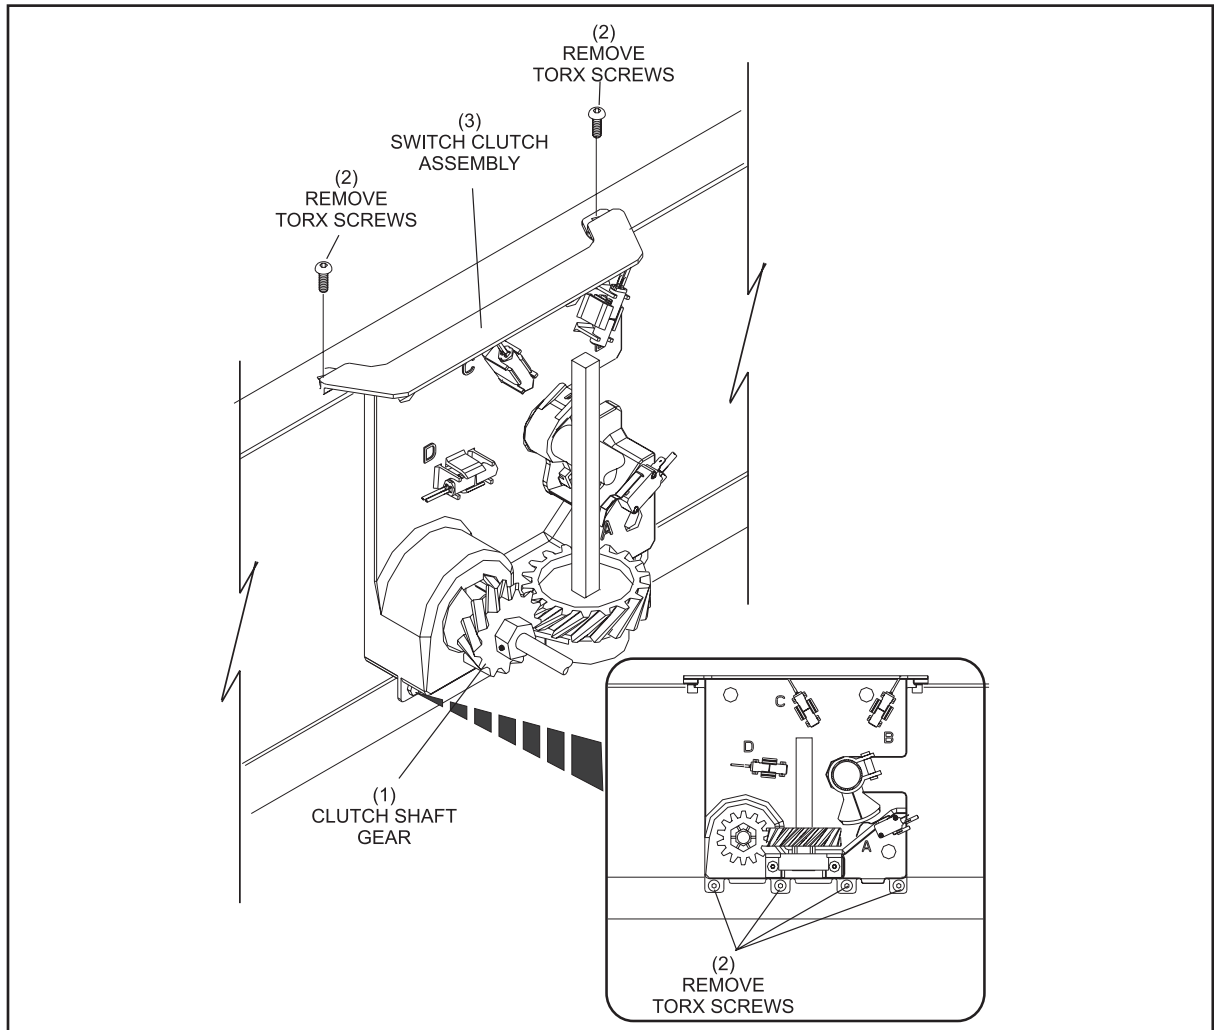

Figure 8-9. Remove Hardware
1. Remove the Torx screws which hold the switch cluster assembly to the pinsetter frame. Refer to Figure 8-9.